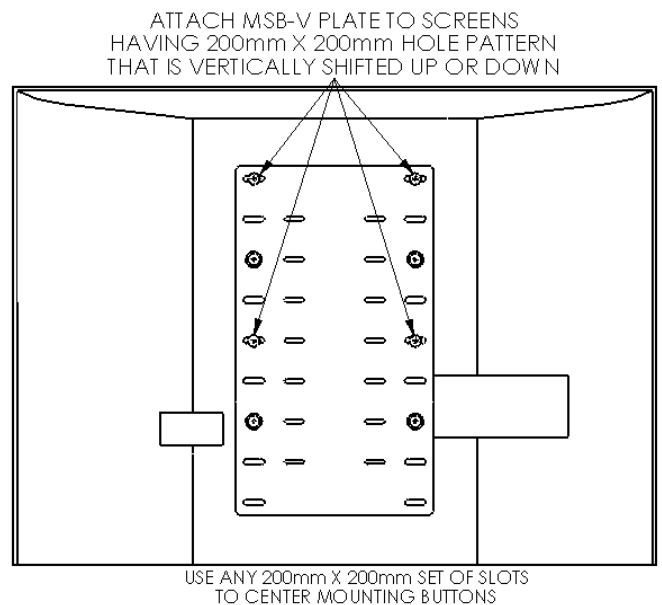

Figure 13. Attach MSB-V to Display with Vertically Shifted Hole Pattern
- If 200mm x 200mm hole pattern is shifted high on the screen (e.g., Samsung LNR-Series), attach the MSB-V (10) vertically with four M6 screws (Bag C) as shown in Figure 13.